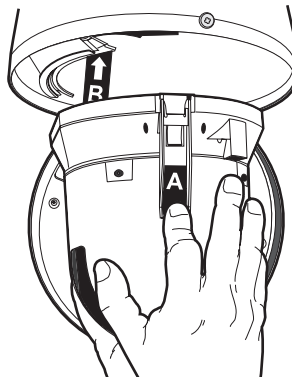

Figure 11. Spectra III/Spectra IV Dome Drive Installation
8. Install the dome drive (refer to Figure 11). Line up the blue (A) and red (B) tabs with the blue (A) and red (B) labels. When pushing the tabs in, insert one side, then the other. Continue pushing on the ends of the tabs until both tabs click into place.